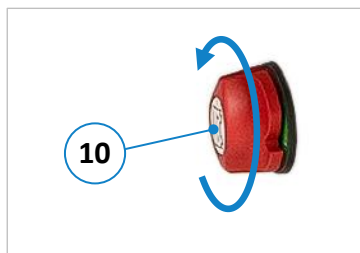

Figure 8: Secure main switch
- Move the main switch handle to the "OFF" position by turning it in the direction of the arrow shown in ⇒ Figure 8.